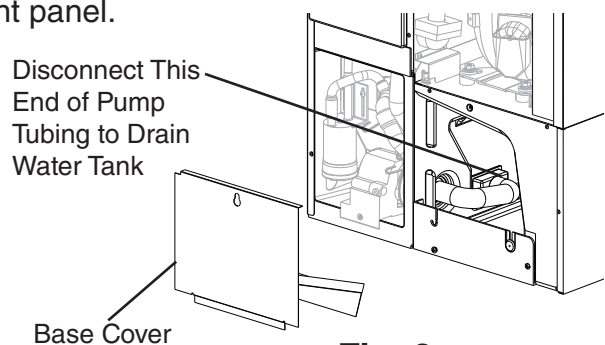

Fig. 6
a) On KM-320M_H, KM-515M_H, KM-600M_H, KM-650M_H, and KM-901M_H, remove the base cover, then disconnect one end of the pump tubing to drain the water tank. See Fig. 6. After the water tank has drained, reconnect the pump tubing.